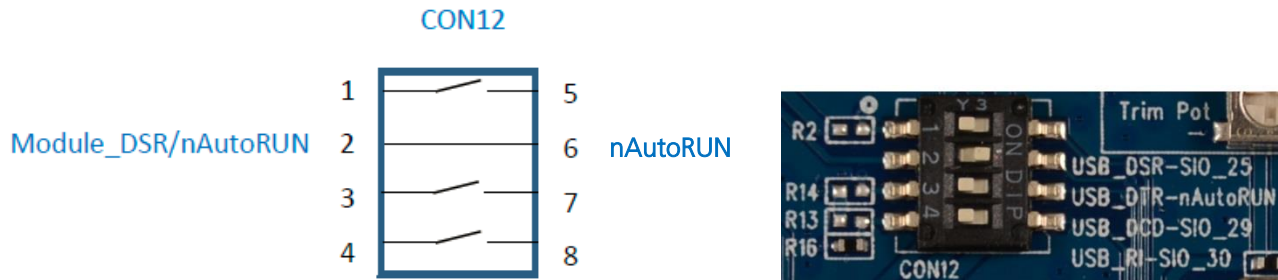

Figure 6: Micro DIP switch CON12 closed (nAutoRUN controlled by PC)
- CON12 (pin 2-6) **must** be CLOSED (in ON position) to allow the PC (using uWTerminal) to control nAutoRUN (pin 3 on BT900); with no jumper fitted to J6 (see Figure 6).
Note: The additional lines of the DIP switch CON12 are not currently utilised and need to remain open, as shown in Figure 6.